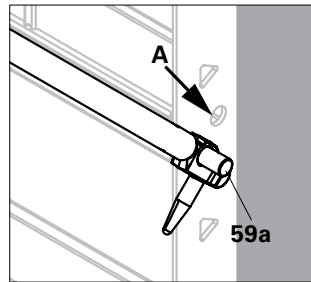

Fig. A8.07b
- Insert the Ø18 pin (59a) side of the forged head into the Ø20 hole (A) of panel frame. (Fig. A8.07b)